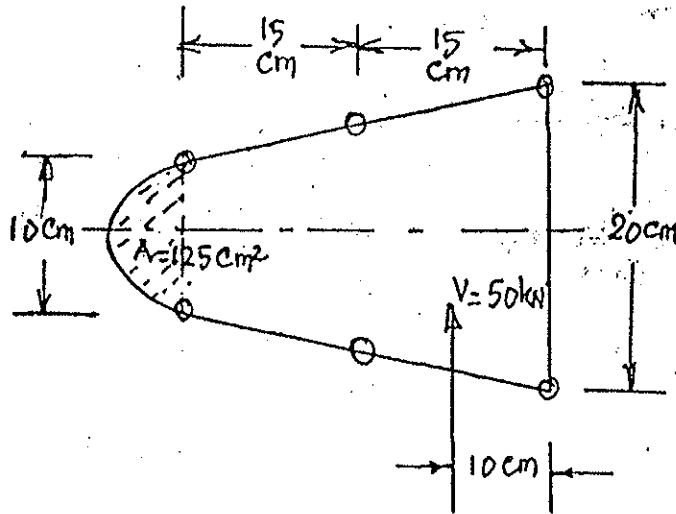

Fig. 2.
- (b) Obtain the shear flow distribution for the closed section shown in Fig. 2. Each stringer area is 6.5 cm^2 .